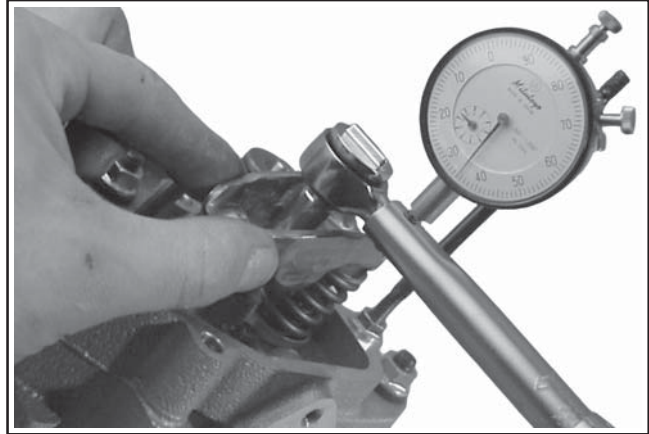

Figure 11-29. Back Off Screw Until Needle Stops.
- Carefully hold/prevent the rocker arm from turning and sliding off the end of the valve, but do not disturb the dial indicator setting. Slowly loosen the rocker arm mounting screw until the dial indicator needle movement stops. **Note and record this reading (from "zero") in thousandths.** See Figure 11-29. This was the distance the valve was being held open. The valve should now be completely closed.